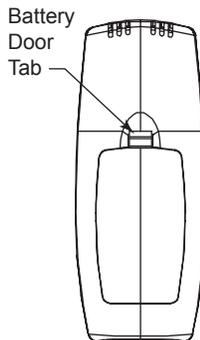

Fig. 57 Battery door tab.
1. Press down the battery door tab and pull out to remove the battery door. (Fig. 57)
4. When three (3) batteries are installed, the transmitter will initialize for 10 seconds and then is ready for use.
5. The batteries should be replaced at least once every six (6) months or when the low battery indicator is displayed.